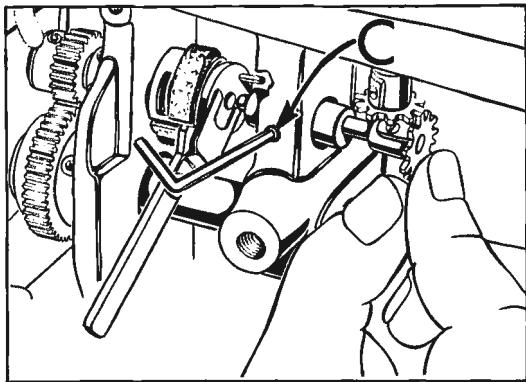

Fig. 22
4. Position air seal felt (J) on hook shaft.
5. Insert pump disc (F) into assembly tool No. 21227 BY, with stop pin on the spring side of tool, 180° from handle. Insert disc approximately half way into spring and center in tool (Fig. 22).
6. Insert hook oil control shaft (D) and its bushing (L) part way into its boss which is located directly behind the hook shaft, being careful NOT TO DROP the pump disc pivot pin (E).
7. A clearance cut on the edge of the metering cup, located between the dovetail and the long horizontal slot, has been provided for the pump disc tool and should be facing you (Fig. 22).
9. Press hook oil control shaft bushing (L) to left until control shaft (D) is approximately $1/16$ inch away from pump disc (F). Make sure the control shaft pivot pin (E) seats in the depression at the center of the pump disc. Tighten set screw (C, Fig. 22) and withdraw assembly tool. Be sure air seal felt (J) has seated against the pump disc.